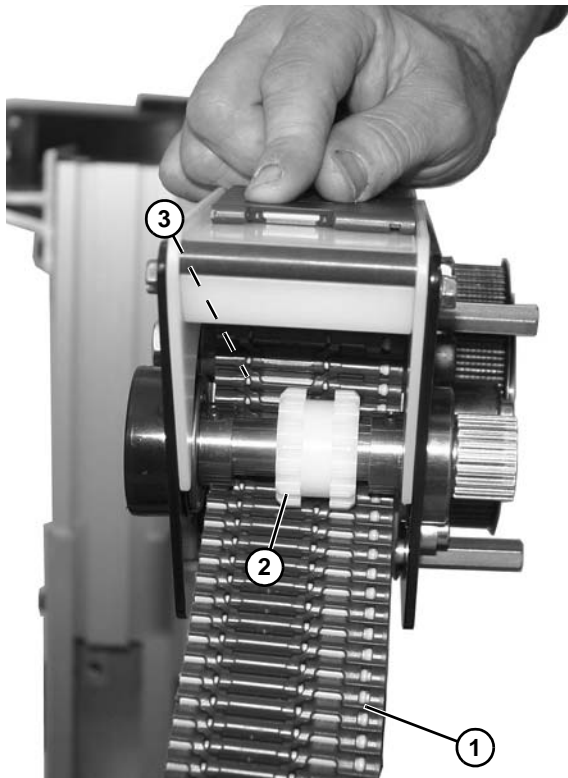

Figure 174
6. Guide belt (Figure 174, item 1) through idler assembly with belt routing under gear (Figure 174, item 2) and over wear tube (Figure 174, item 3).